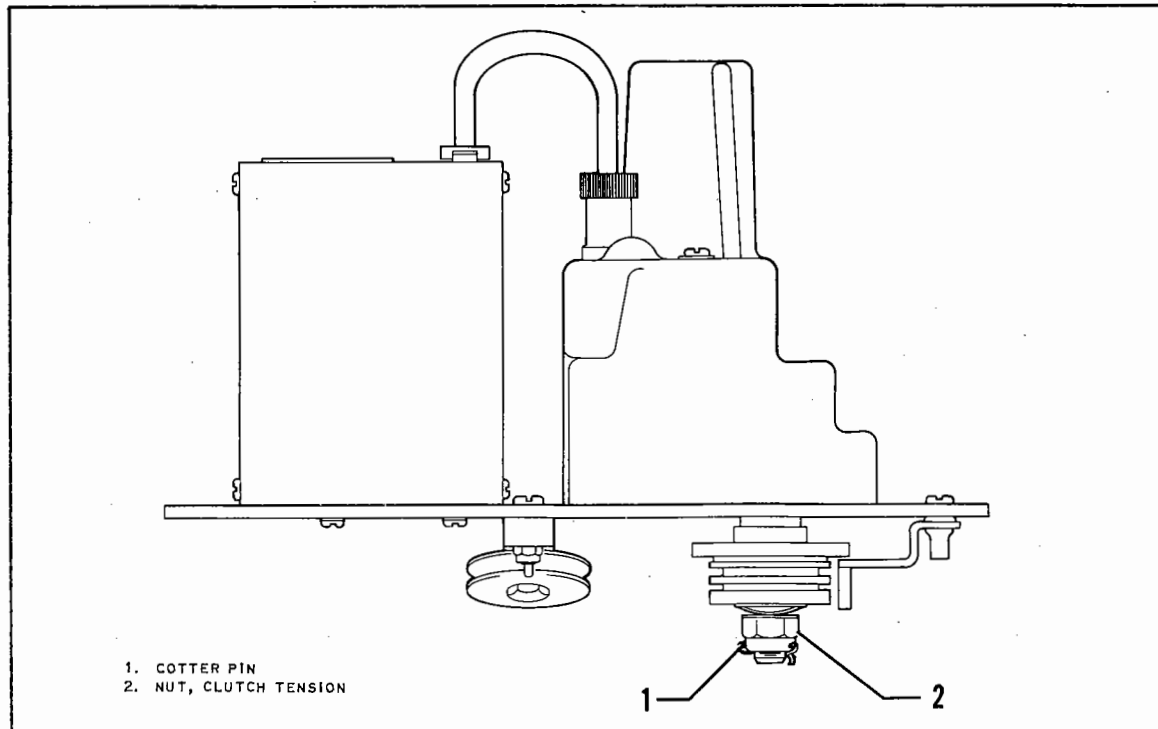

Figure 22-2. Clutch Adjustment Detail
- e. To adjust clutch, refer to Figure 22-2 and proceed as follows: